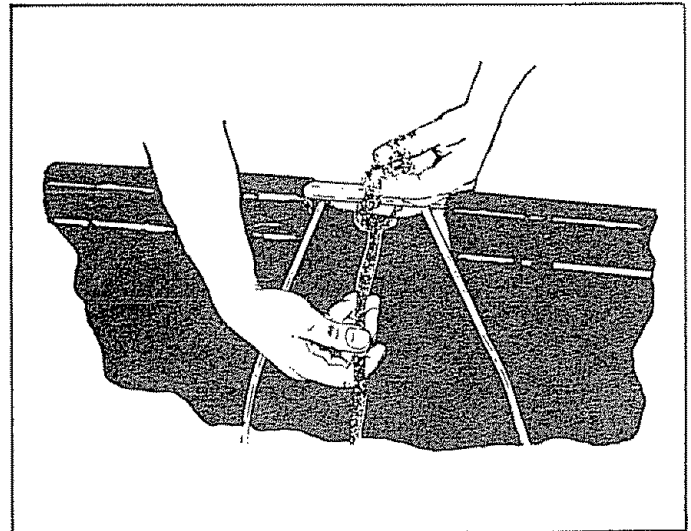

FIGURE 23
16. Secure the rope to the top center of hopper bag frame as shown in figures 23 and 24.